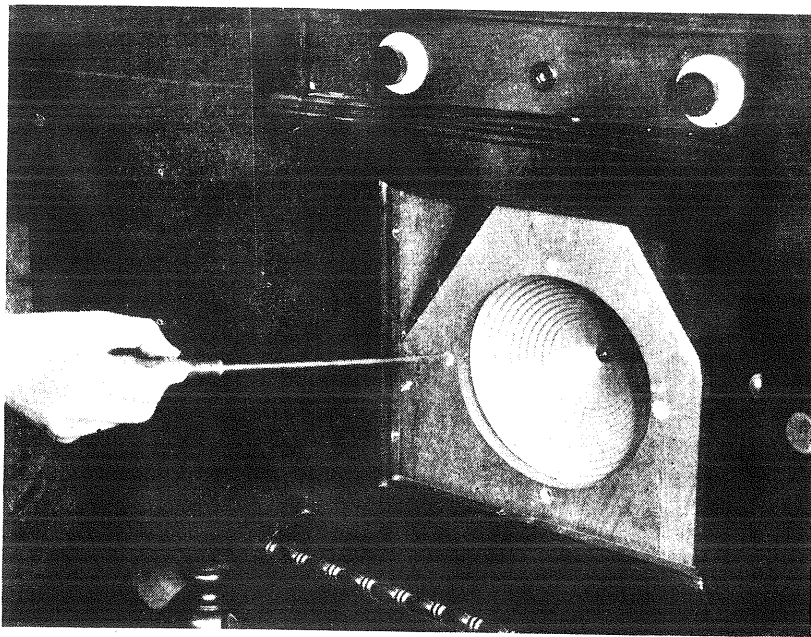

Figure 22—Releasing reproducer from housing
- (d) Remove the four screws holding the speaker unit to the baffleboard (Figure 22). Before the last screw is released the speaker unit should be held from the opening at the bottom of the cabinet, so that it will not fall through.